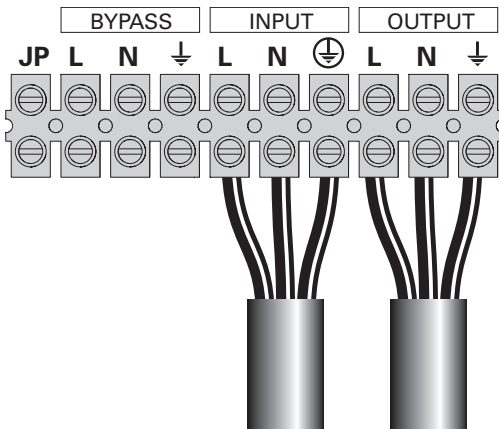

Figure 19.
- 1 - Remove the metal jumper (see figure 19).